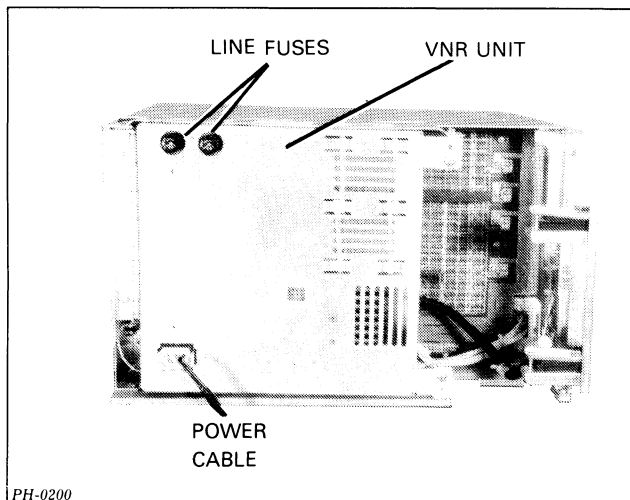
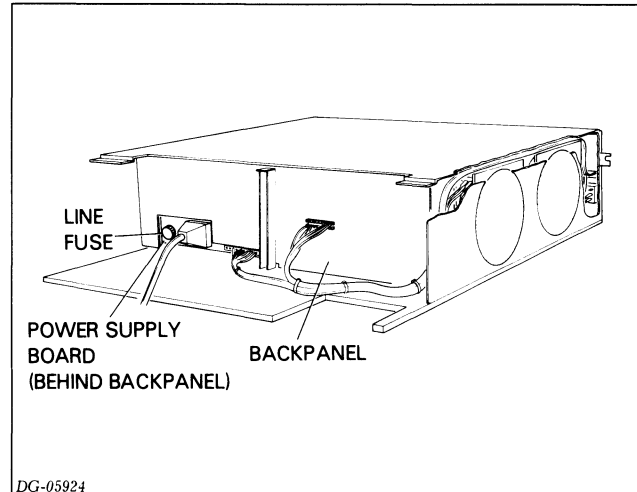

Figure 4.1 Line fuses for 16-slot power supply
Figure 4.2 Line fuse for 5-slot power supply
4. If you are repairing a system, check the ac line fuses and replace them if they are blown. The 16-slot power supply has two 15 Amp line fuses which screw into the rear of the VNR unit (see Figure 4.1). The 5-slot power supply has one 7 AMP line fuse which screws into the rear of the power supply board and extends through a cutout in the backpanel (see Figure 4.2).